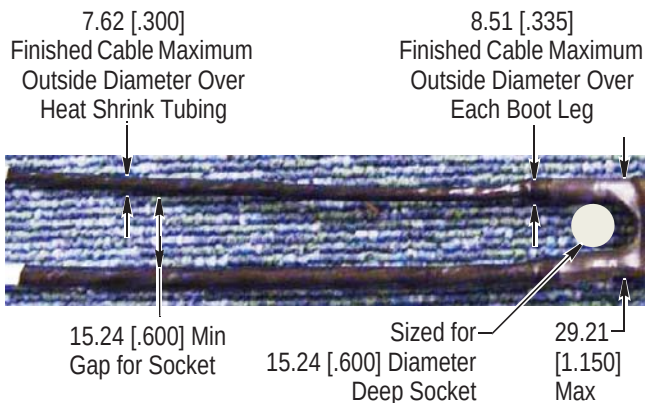

Figure 17
n. Place a 15.24-mm [.600-in.] diameter dowel pin or rod between the shrink boot legs during cooling to maintain the required socket clearance (refer to Figure 17).
14. Check the cable leg separation to make sure it meets the dimensions given in Figure 17.